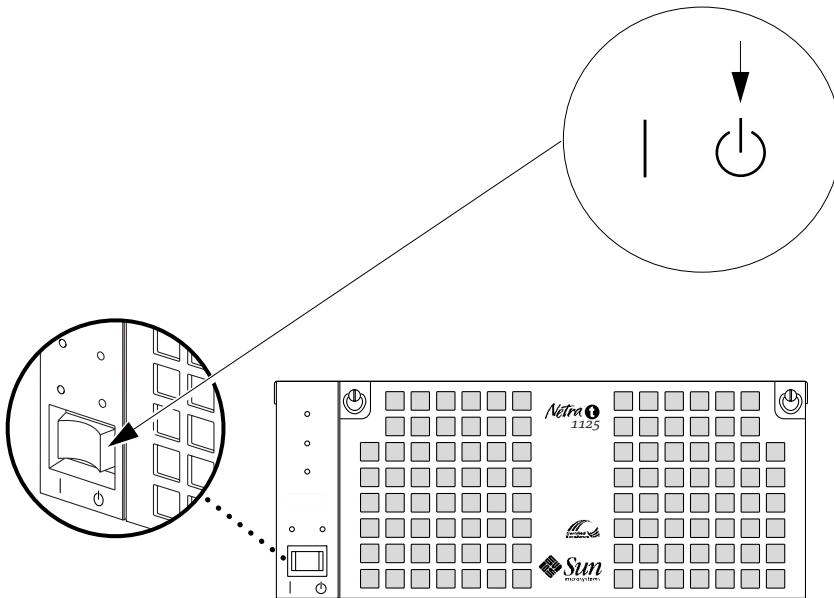

FIGURE 2-4 System Power-Off (Front Panel)
4. Momentarily set the front panel ON/STBY power switch to the STBY  position (FIGURE 2-4) until the system powers down.